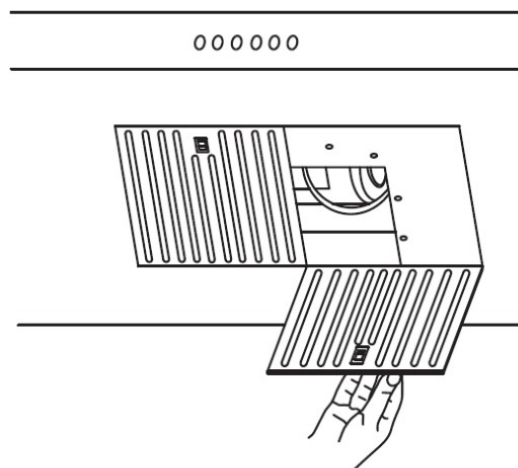

Fig.7
1. Push the clips on the baffle filters and then pull back, then the baffle filters can be taken down (Fig. 7).